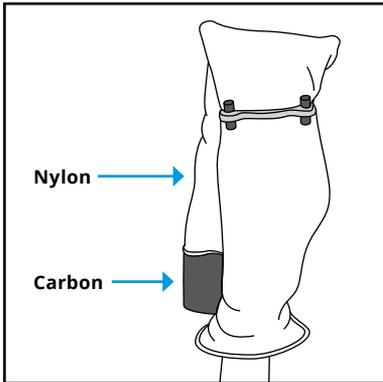
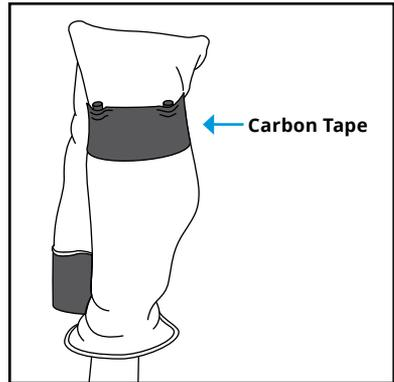

Figure 2
Figure 3
6. Place contoured socket attachment ring over first layer of nylon hosiery and carbon sleeve allowing the second layer to protrude out through the attachment ring (see Figure 2). The ring should be placed perpendicular to the ulna for the best alignment. Apply a layer of 1 in. UD carbon tape over attachment ring for reinforcement (see Figure 3).